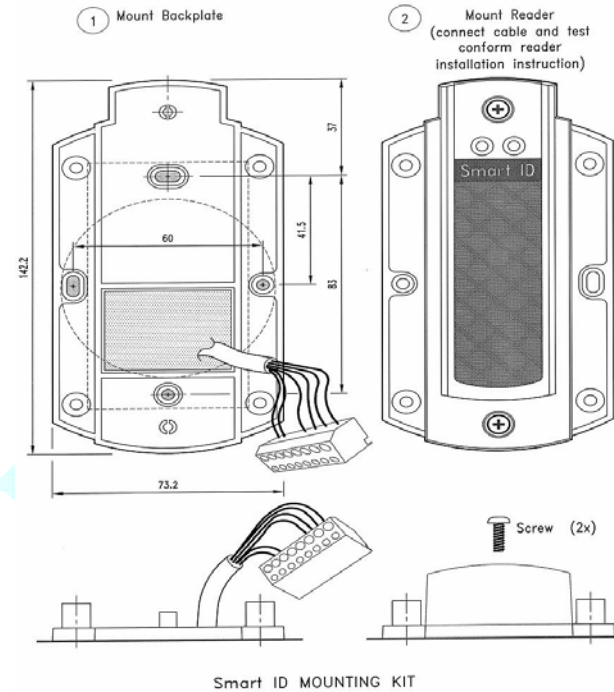

Figure 3 Mounting Plate Step 1 and 2
- Figure 3 Mounting Plate Step 1 and 2.....